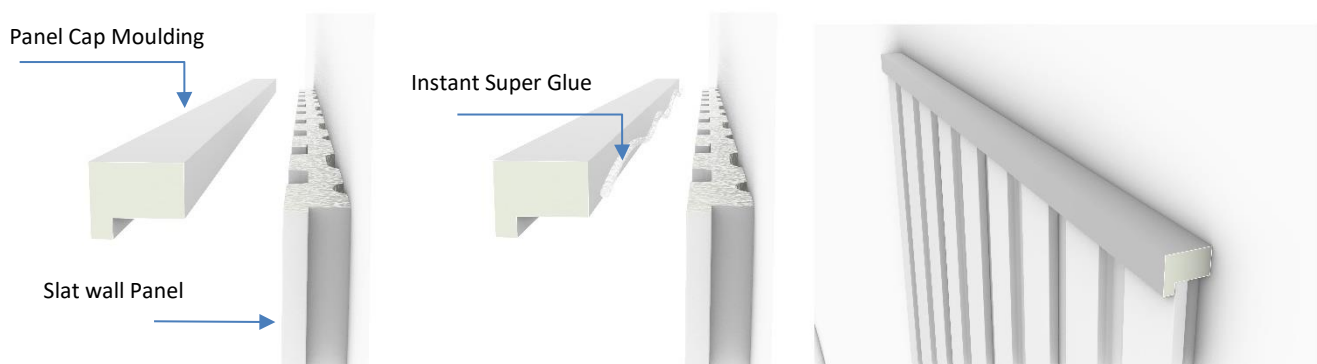

figure 10
- Apply a continuous Strands of Instant Super Glue to the area of the bar that will be in contact with the wall, see illustration figure 10. Now place the bar in the desired installation position and press it against the surface. For a more efficient result, hold for about 30 seconds.